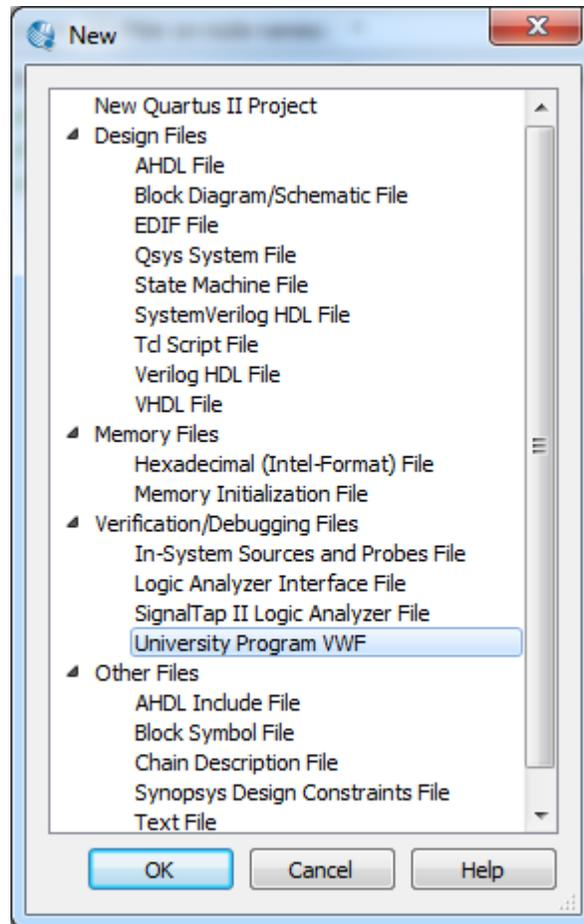

Figure 23. Need to prepare a new file.
- i). Open the Waveform Editor window by selecting **File > New**, which gives the window shown in Figure 23. Choose **University Program WVF** and click **OK**.